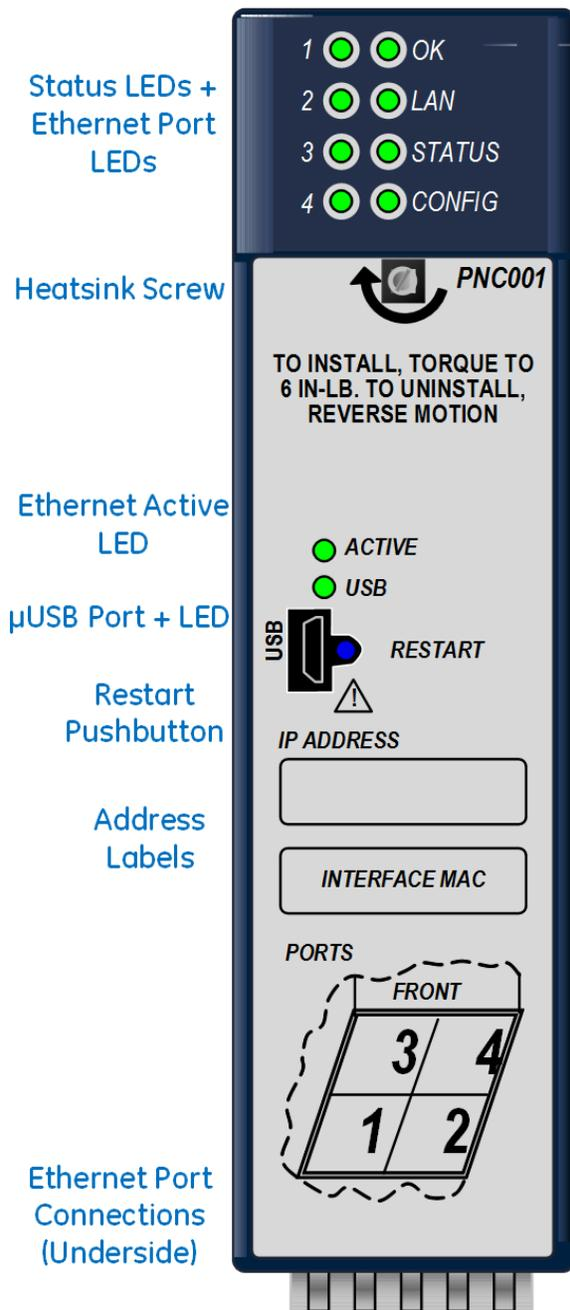
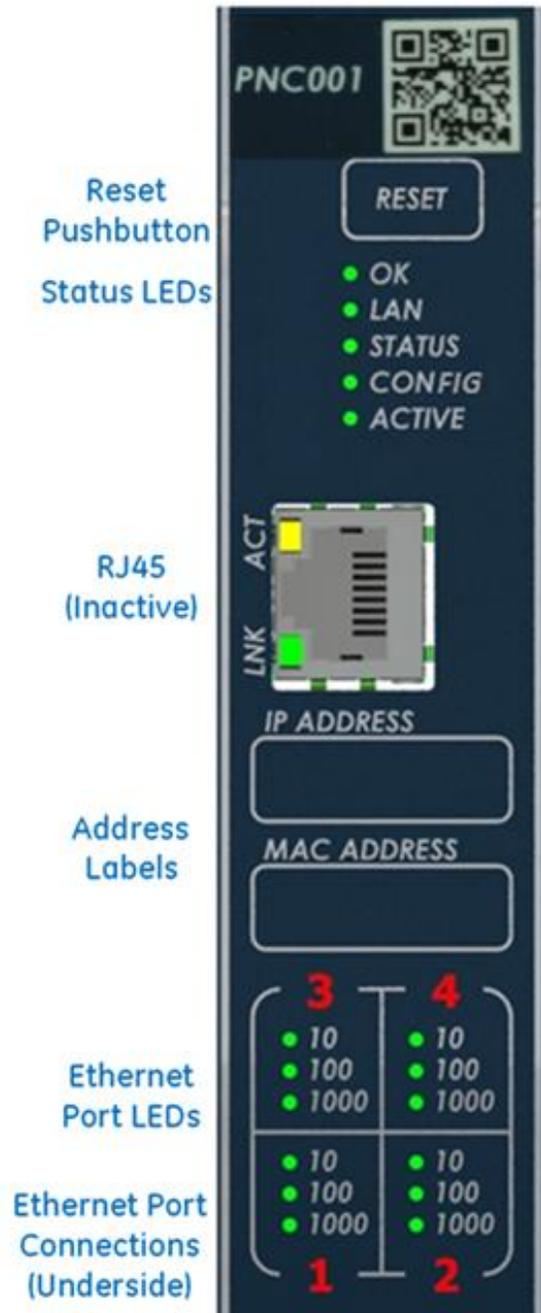

Figure 2: IC695PNC001-Ax Controls & Indicators
Figure 3: IC695PNC001-Bxxx Controls & Indicators
- LEDs: *OK*, *LAN*, *STATUS*, *CONFIG*, *ACTIVE*, *USB* (PNC001-Ax only), and *Port Number* LEDs as shown in Figure 2 and Figure 3.